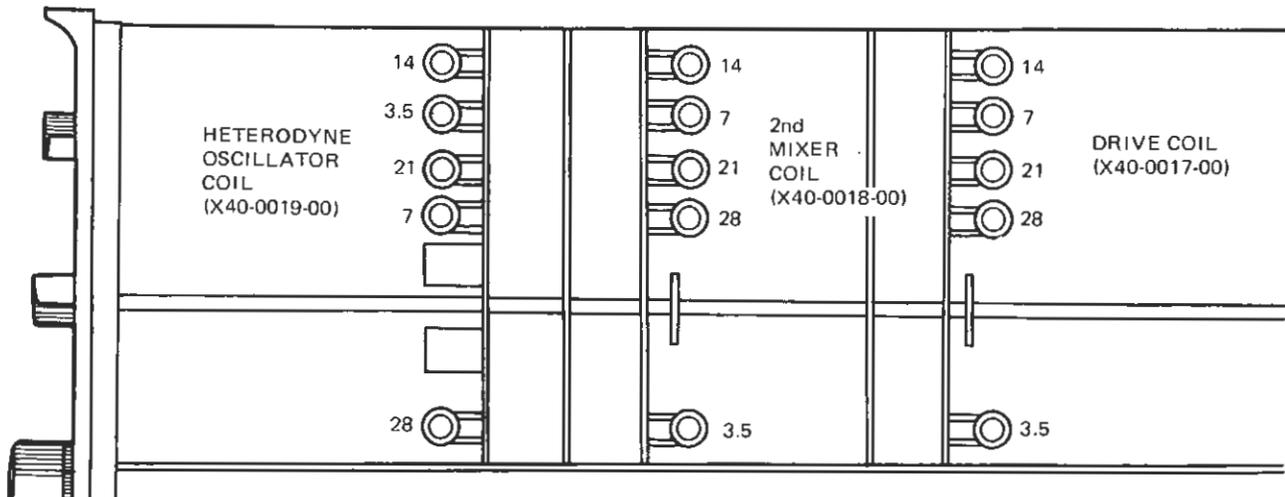

Fig. 6
(3) Adjusting procedure (Refer to Fig. 6)